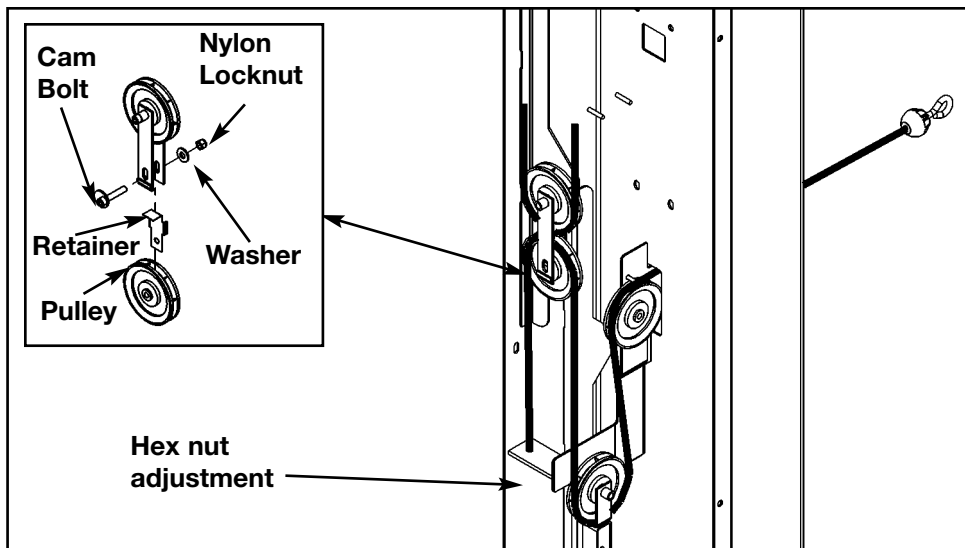

Figure 1
2. **Check tension on next cable** (see steps 2A - and Figure 1).
- A. Adjust hex nut to to remove any excess slack. See Figure 1.